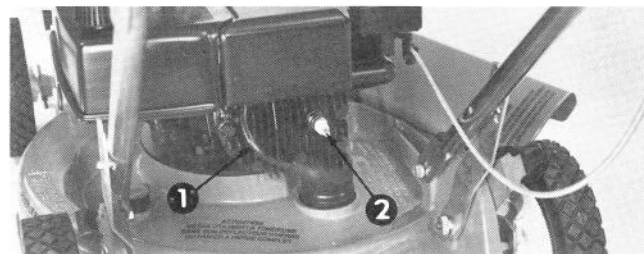

Figure 21
2. Clean area around spark plug so foreign matter does not fall into cylinder when plug is removed. Remove spark plug from cylinder head (Fig. 21).